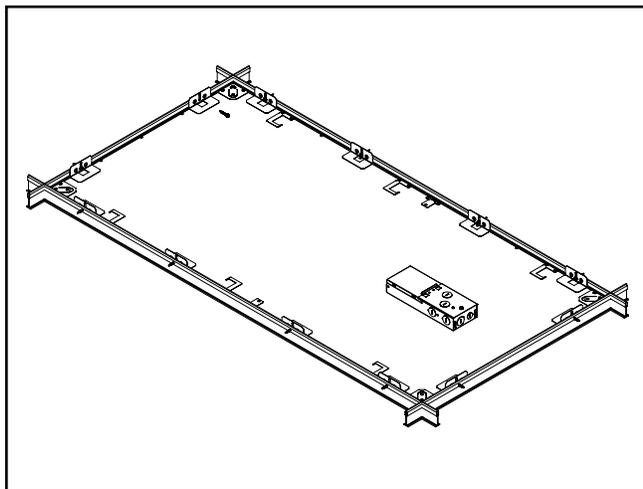

**Figure 5.**
8. Tuck all wires and wire nuts into the fixture junction box, replace electrical access plate, and snap securely into place. (Figure 5.)